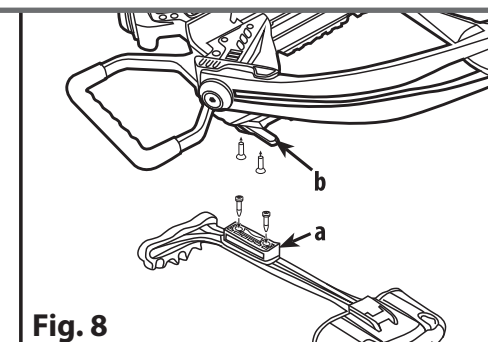

Fig. 8
2. Screw quiver mount onto the bottom of the stock using the quiver mount screws using the small hex wrench. (Fig. 8)